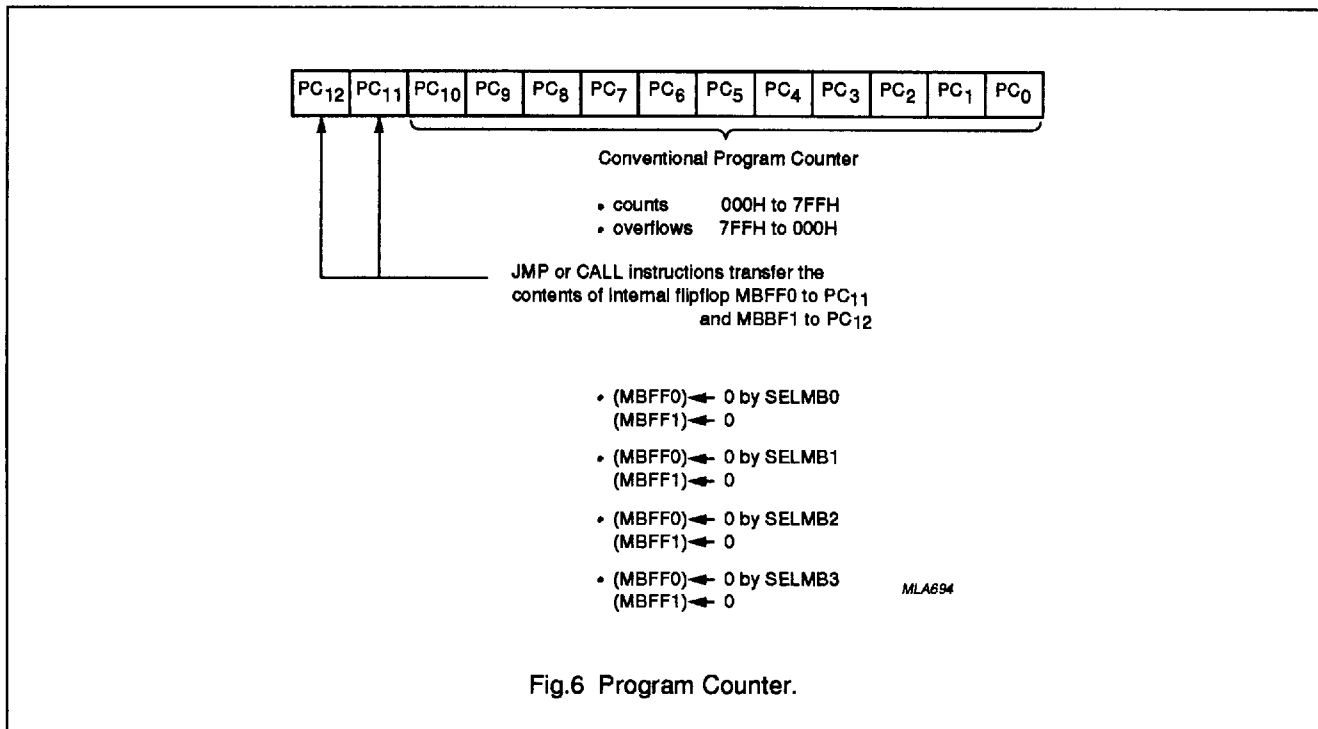

Fig.6 Program Counter.
The 13-bit Program Counter is able to address up to 8 kbytes of ROM (see Fig.6). 11 bits (PC0 to PC10) are auto-incrementing. The two most significant bits (PC11 and PC12) must be changed under program control by SEL MB followed by a JMP or CALL instruction.
- The SEL MB instruction must not be used in interrupt routines and in subroutines called from interrupt routines. Otherwise, the changed contents of MBFF0 and MBFF1 (see Fig.6) may lead to erroneous JMP and CALL destinations after return from interrupt.